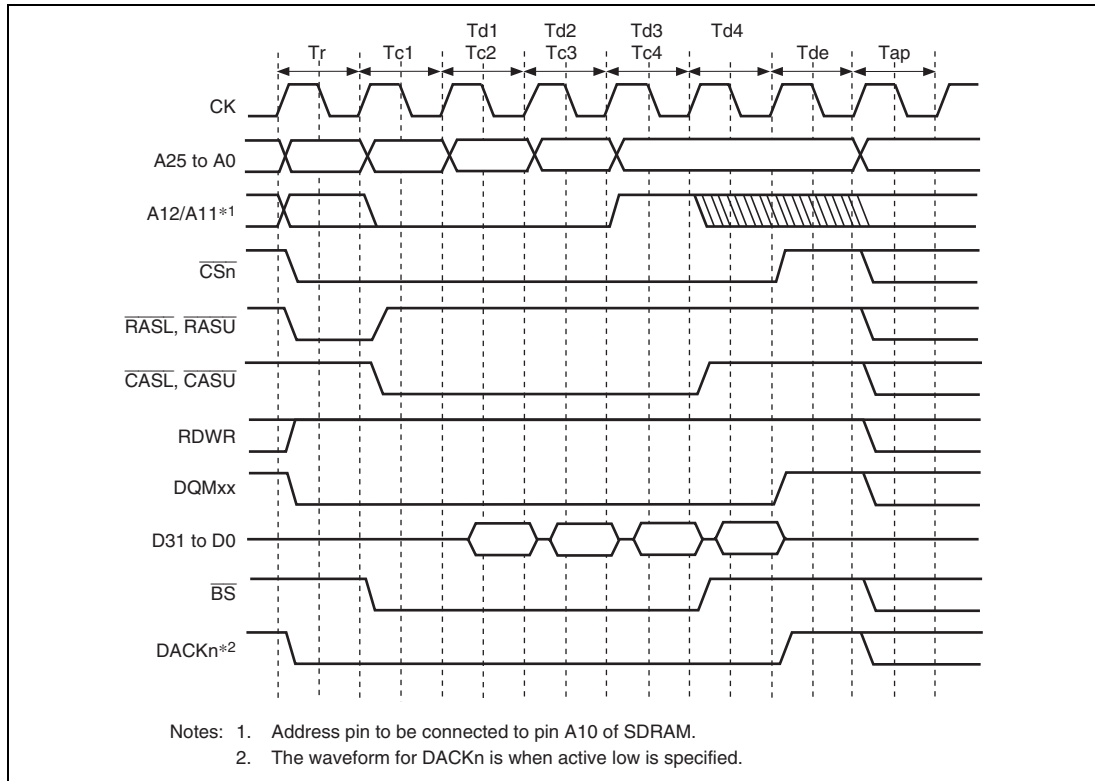

Figure 9.18 Burst Read Basic Timing (Auto-Precharge)
Figures 9.18 and 9.19 show a timing chart in burst read. In burst read, an ACTV command is output in the Tr cycle, the READ command is issued in the Tc1 to Tc3 cycles, the READA command is issued in the Tc4 cycle, and the read data is received at the rising edge of the external clock (CK) in the Td1 to Td4 cycles. The Tap cycle is used to wait for the completion of an auto-precharge induced by the READ command in the SDRAM. In the Tap cycle, a new command will not be issued to the same bank. However, access to another CS space or another bank in the same SDRAM space is enabled. The number of Tap cycles is specified by the WTRP1 and WTRP0 bits in CS3WCR.